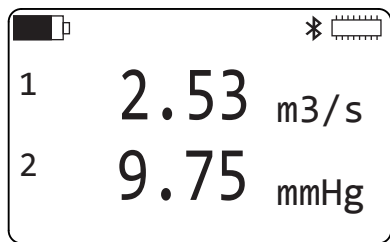

Figure 10
From the **Measurements data** screen (see Figure 10), press ► four times, then ▼ once.
- From the **Measurement data** screen (see Figure 10), press ►.
From the **Measurement data** screen (see Figure 10), press ► 4 times, then ▼ once.